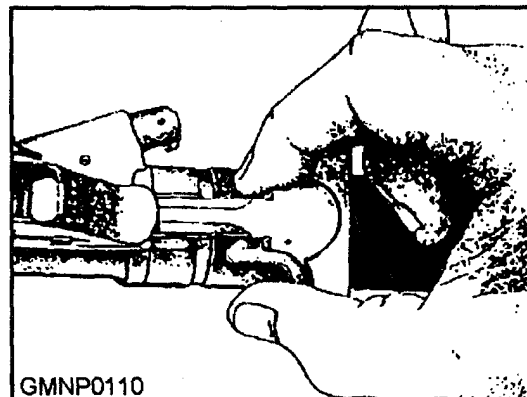

Figure 3-36.—Pulling the charging handle rearward.
3. Lock the bolt open, as shown in figures 3-36 and 3-37. Grasp the charging handle with the thumb and forefinger of the right hand, depress the charging handle latch with the right thumb, and pull to the rear (fig. 3-36). When the bolt is at the rear, press the bottom of the bolt catch with the thumb or forefinger of the left hand